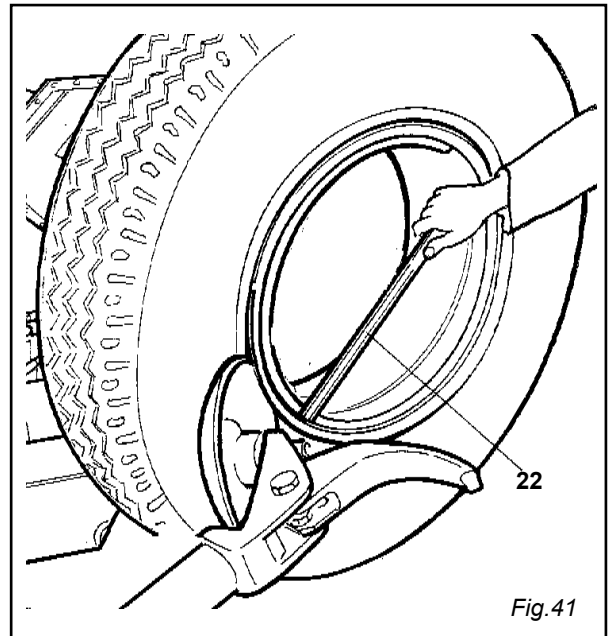

Fig.41
- 5) Repeat this procedure but this time bring the disk against the split-ring (Fig. 41) until the lock ring is released. Remove this with the special lever (22, fig. 41) or with the help of the disk.